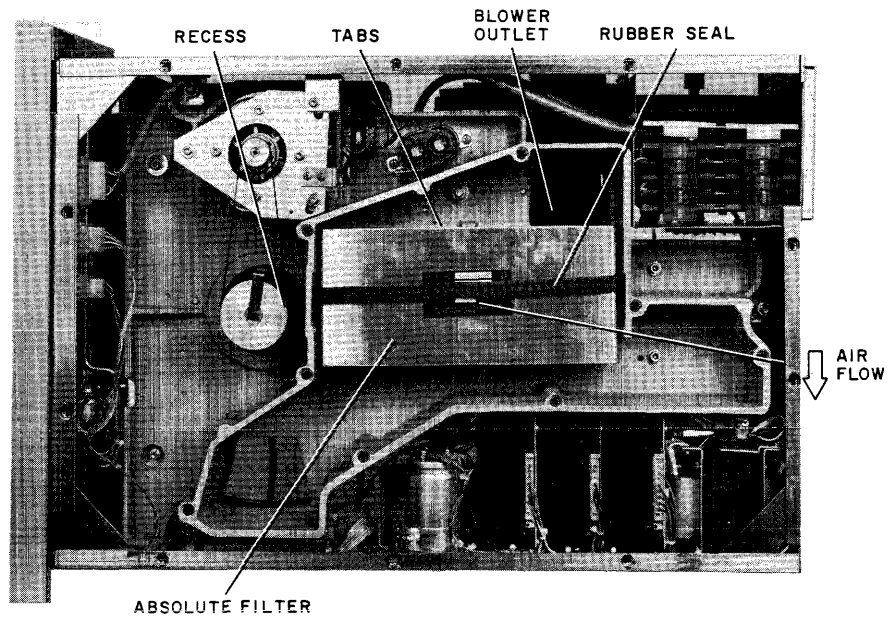

Figure 5-2 Absolute Filter Removal
4. Remove the bottom and plenum covers (Figure 5-2).
9. Remove the absolute filter (Figure 5-2).
8. Install the absolute filter with the arrow (air flow) pointing away from the blower outlet (Figure 5-2). Ensure that the filter is positioned between the two tabs and that the rubber seal is in the baseplate recess.